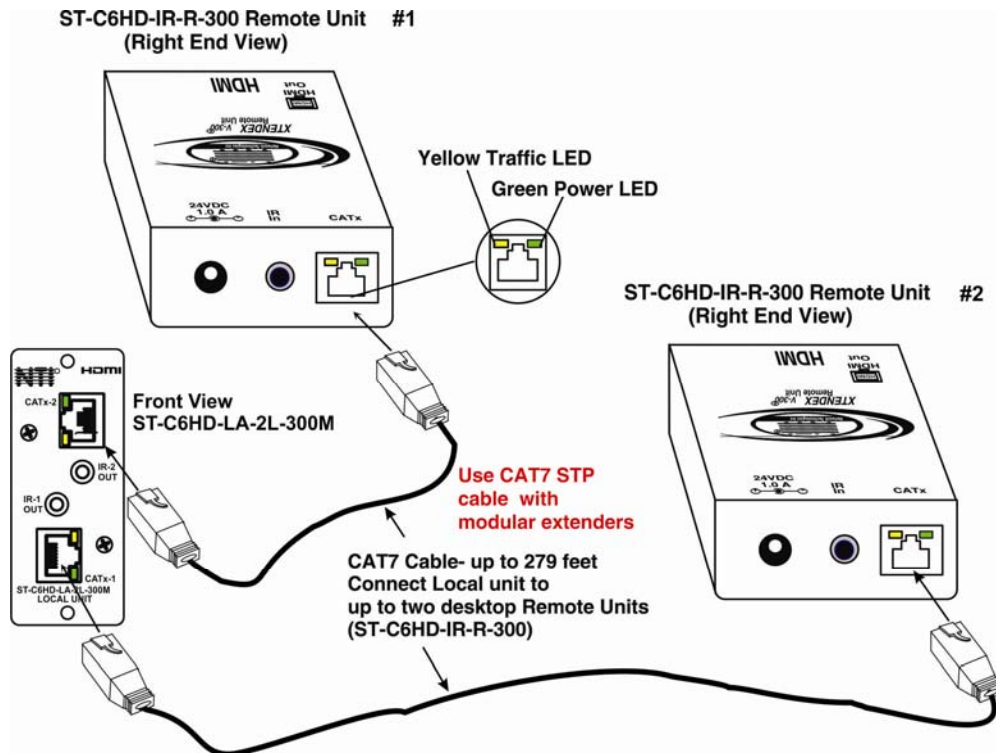

Figure 12- Connect the CAT7 cable between the Local and Remote Units
Connect the CAT7 cable to a "CATx-1" or "CATx-2" port on the front of the Local Unit (see Figure 12). When properly inserted the cable end should snap into place. Connect the other end of the cable to the "CATx" port on the Remote Unit.
4. Turn ON the video/audio source(s) and display devices. They should each react as if they were directly connected to each other. The yellow "Traffic" LEDs on the Remote and Local Units (see Figure 12) should blink indicating there is proper communication between them.